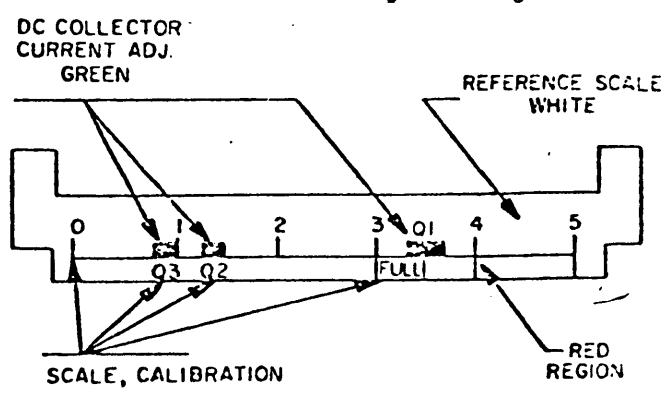

Figure 3-3. Exciter monitor meter scale.
- 3.3.3.10 Verify that the meter indicates in the green region marked Q1. (See Figure 3-3).